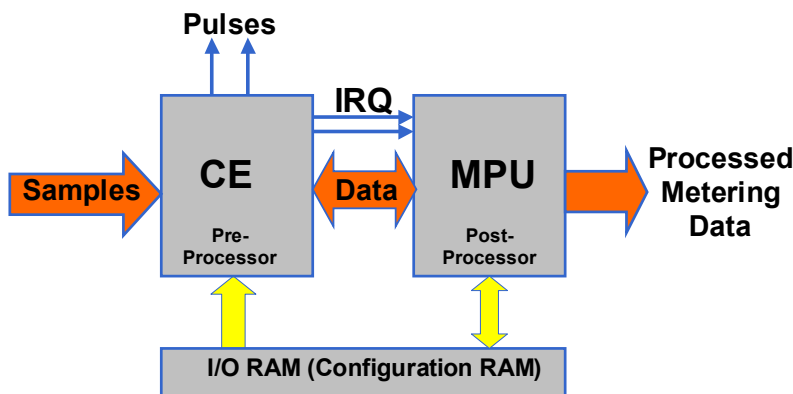

Figure 26: MPU/CE Data Flow
The data flow between CE and MPU is shown in Figure 26. In a typical application, the 32-bit compute engine (CE) sequentially processes the samples from the voltage inputs on pins IA, VA, IB, and VB, performing calculations to measure active power (Wh), reactive power (VARh),  $A^2h$ , and  $V^2h$  for four-quadrant metering. These measurements are then accessed by the MPU, processed further and output using the peripheral devices available to the MPU.